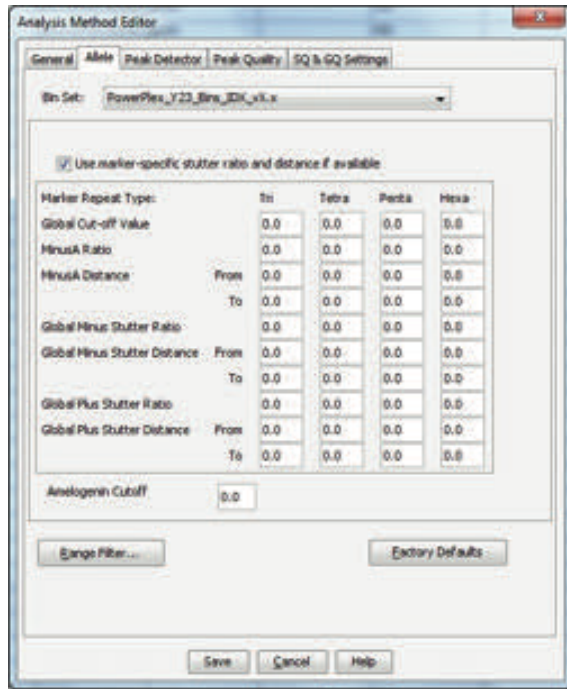

Figure 13. The GeneMapper® ID-X Software Allele tab.
6. Select the Allele tab (Figure 13).
8. Ensure that the “Use marker-specific stutter ratio and distance if available” box is checked. Doing this will assign locus-specific stutter filters and distances from the imported stutter file. We recommend the settings shown in Figure 13 for proper filtering of stutter peaks when using the PowerPlex® Y23 System.